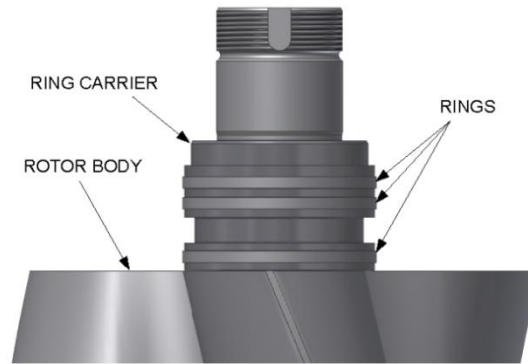

Figure 7-2 – INSTALL PISTON RINGS
6. Install the piston rings (15) into the 4 piston ring carriers starting with the ring closest to the rotor body. Ensure that the ring ends are hooked together properly. Offset the gaps in the rings 180 degrees. See Figure 7-2.
13. Install 2 dowel pins (19) into the drive end of the air cylinder.
15. Attach the bearing housing to the air cylinder using 6 socket head screws (21) and washers (20). The screws should have a nylok insert. Tighten the screws in an alternating pattern starting with the middle ones. Torque the screws to 38 ft-lb in 2 steps.
16. Heat 2 seal flingers (34) to 275 degrees F. After heating use a gauss meter to check the flingers for magnetism. The magnetic flux density must be less than one gauss. Use the flinger drive tool (EQ143806) to drive them into position on the ends of the piston ring carriers of the drive end of both rotors. Be careful not the damage the threads on the rotor shafts. Ensure each flinger is seated against the shoulder on the ring carrier and that it is recessed below the end of the ring carrier.